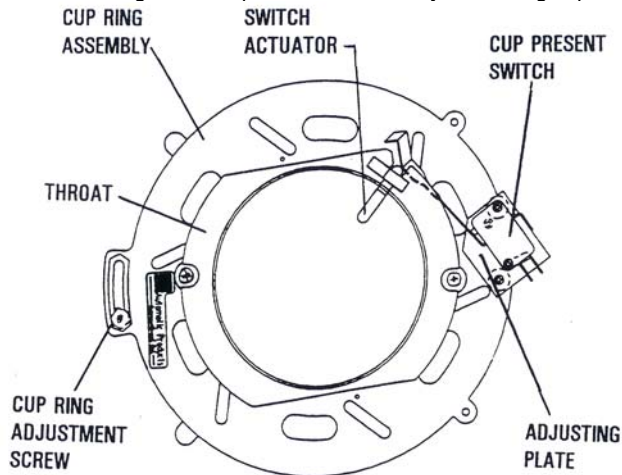

FIGURE 622
2. Locate the lever with single adjustment screw & nut on the left side of the cup ring (see Figure 622), and loosen the bottom screw 1/2 turn.